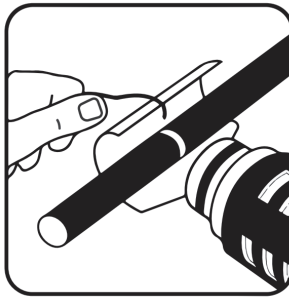

Fig 4
- **Hook nozzle (See Fig. 4)**